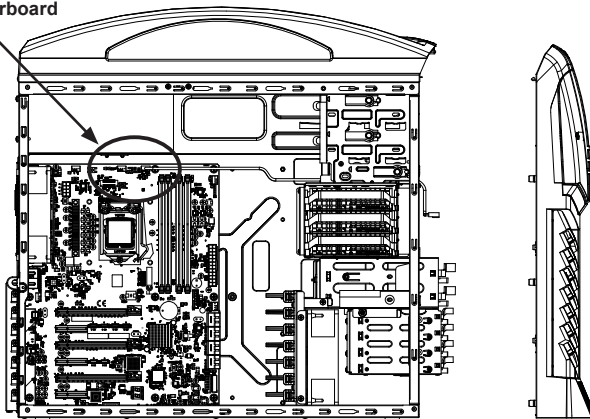

Figure 4-12: Connecting to the Supermicro C7Z87-OCE Motherboard
3. Plug the end of the LED power cable into the JCHLED1 header on the Supermicro C7Z87-OCE motherboard as illustrated in figure 4-12.